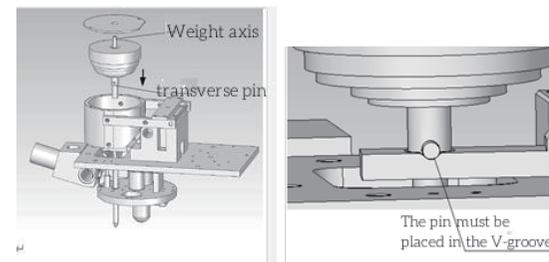

Figure 3.3 Weight Axis and Placement of Weights
- Rotate the change handwheel (9) to 1kgf.
- Grasp the top of the weight shaft, place it inside the weight housing, and rotate the weight shaft to place its transverse pin in the V-groove (Figure 3.3). Align the holes on the end cover with the weight shaft, so that the steps are installed inside the weight housing and can rotate.